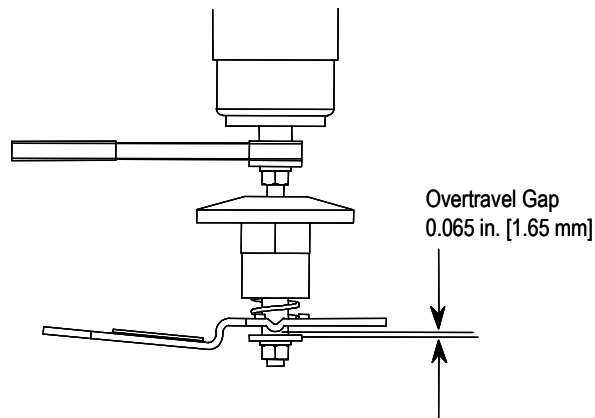

Figure 4.7 – Establishing Overtravel
7. Close the contactor by using the TEST control circuit in the starter. Insert a feeler gauge of 0.065 in. (1.65 mm) into the overtravel gap of a bottle assembly (Figure 4.7). Rotate the insulator until the gap is correctly set. Repeat this step for the two remaining bottles. This step must be performed accurately because it establishes synchronization between the three vacuum bottles.